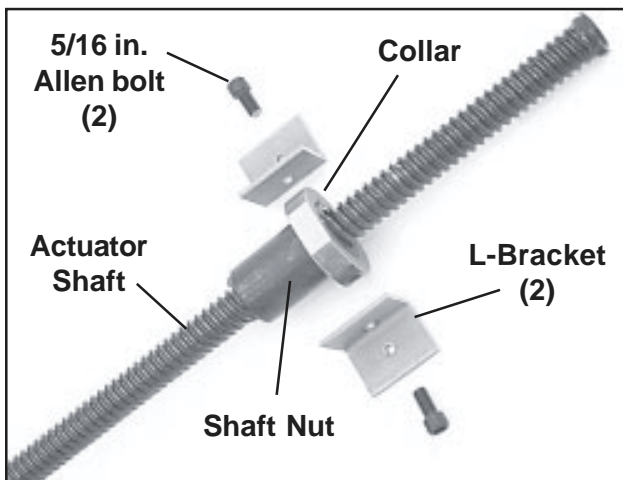

Figure 30. Top End of Actuator (removed from table)
16. With a 5/16 in. Allen wrench, unscrew the two bolts that hold the L-brackets to the collar, and remove the brackets (Figure 30).
4. Mount the two L-brackets to the collar with the 5/16 in. Allen bolts (Figure 30). The bolts should bottom out on the indents.